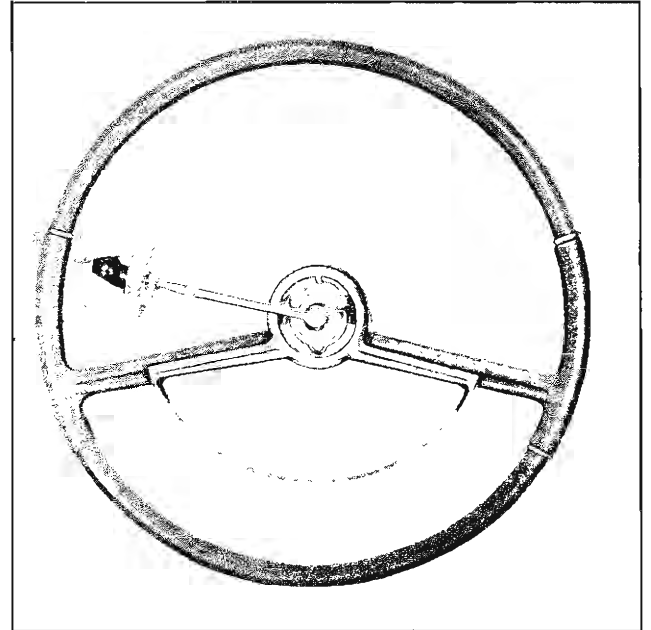

Fig. 9-16 Checking Pull at Wheel
6. With a inch pound torque wrench at steering wheel, measure pull required to keep wheel in motion when off high point, at least  $30^\circ$  off center (Fig. 9-16).